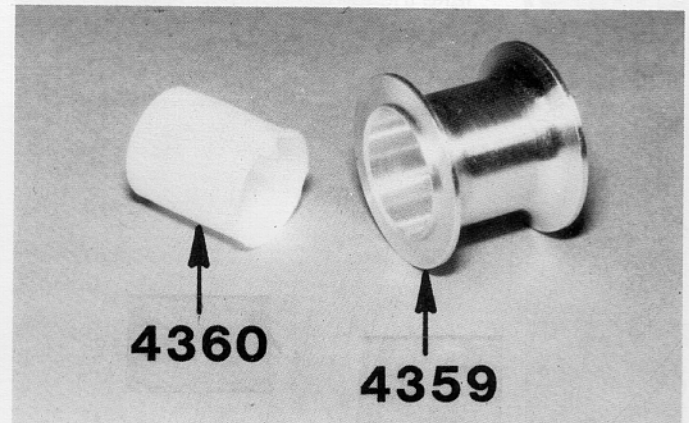

Fig. 63
□ **Fig. 63**—Slide the #4360 plastic ball bearing mount into the #4359 wheel spacer so that the thin end of the bearing mount goes in first.